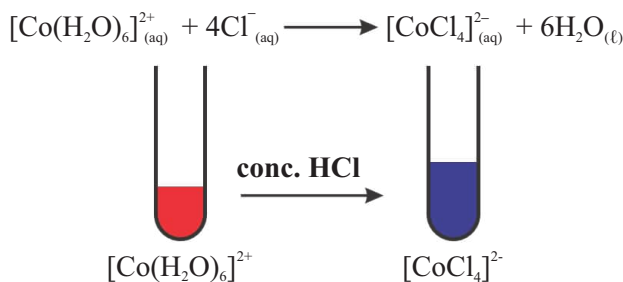

Figure 18.10 Exchange of water molecules by chloride ions in a Co(II) complex
The addition of concentrated hydrochloric acid drop by drop to an aqueous solution of cobalt(II) ions results in the formation of a blue solution containing the tetrahedral complex $[\text{CoCl}_4]^{2-}_{(\text{aq})}$ (**Figure 18.10**).